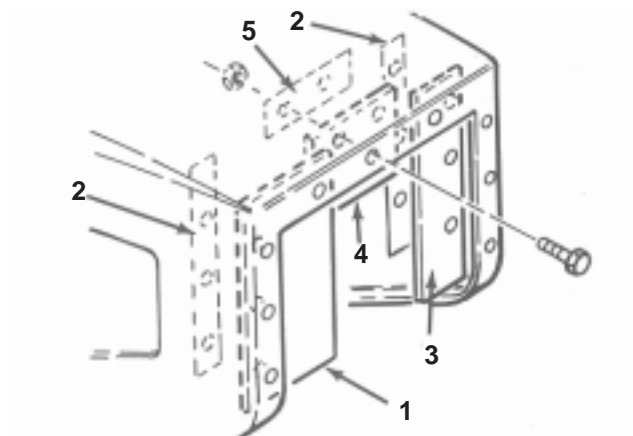

Figure 19
1. Secure wide shield to left inside lip of hopper opening with a long flat, (3) #10 – 24 X 1" Ig. screws and #10 – 24 flange nuts (Fig. 19).
2. Secure narrow shield to right inside lip of hopper opening with a long flat, (3) #10 – 24 X 1" Ig. screws and #10 – 24 flange nuts (Fig. 19).
3. Secure top shield to upper inside lip of hopper opening with a short flat, (2) #10 – 24 X 1" Ig. screws and #10 – 24 flange nuts (Fig. 19). Use (2) mounting holes on right side of opening only.